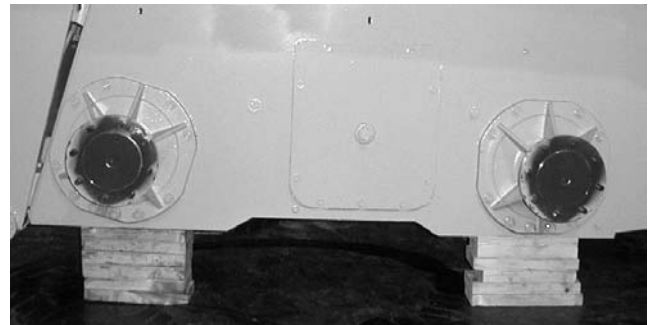

Fig. 7-1: Skid Loader Properly Blocked
3. Stack wooden blocks under the flat part of the loader chassis. They should run parallel with, but not touch, the rear tires (see fig. 7-1).